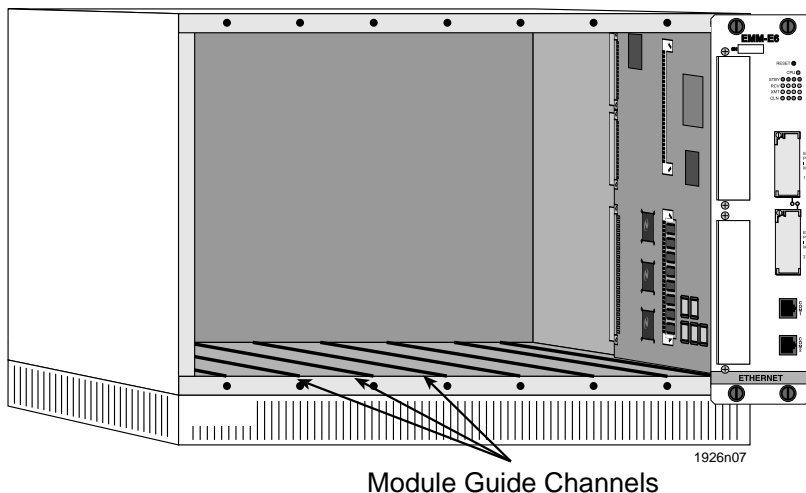

Figure 3-3 Installing the EMM-E6
3. Slide the EMM-E6 (Figure 3-3) into slots 1 and 2 of the MMAC chassis.